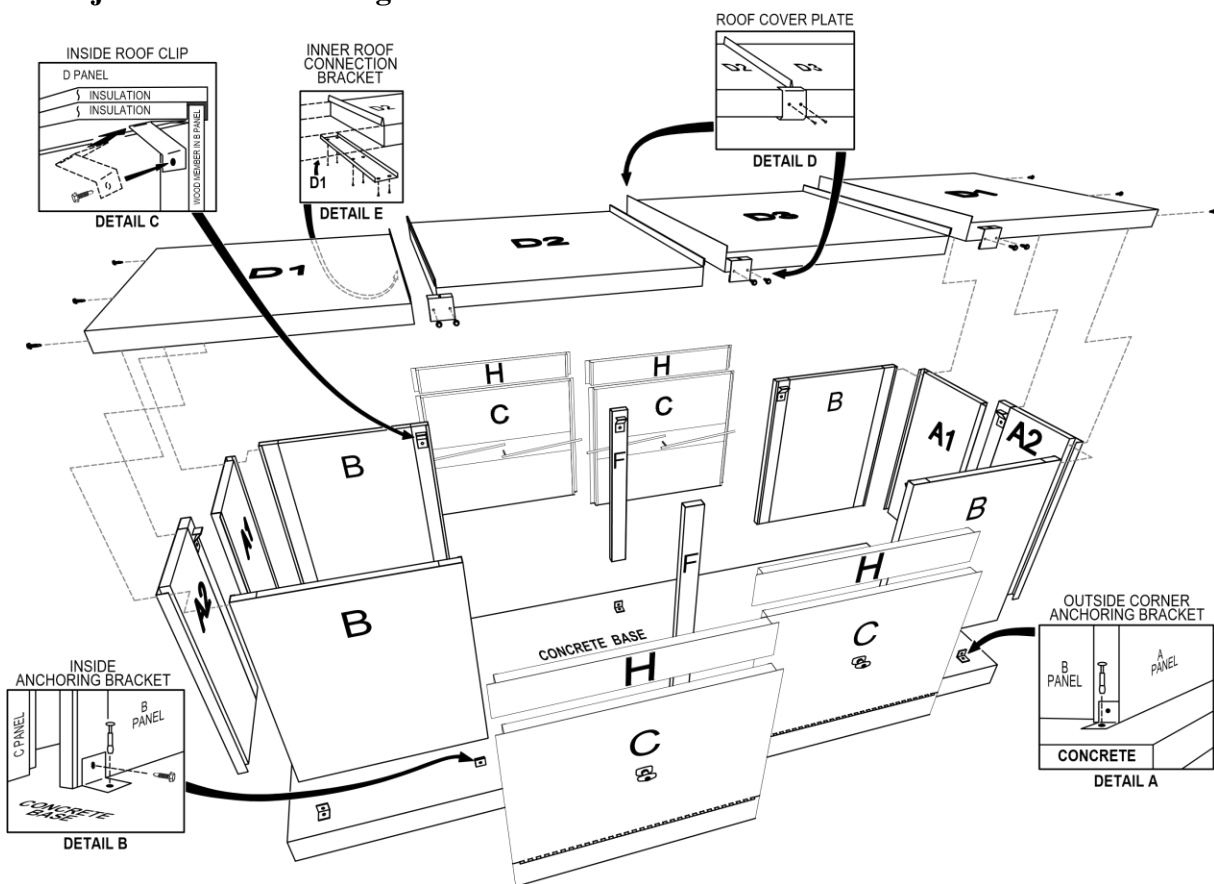

FIG. 2
8. With the “D1” (roof) panel in place on a “B-A-B” (corner-end-corner) assembly, fasten it as shown at the vertical stud locations (Fig. 2) using six (6) Hex Head Screws. The marked stud centers of the “A#” panels at the wall stud locations should be 1³/₄” from the edge of the panels. Note the orientation and location of the vertical studs in the Enclosure Plan View. Screws should fasten to the vertical studs to